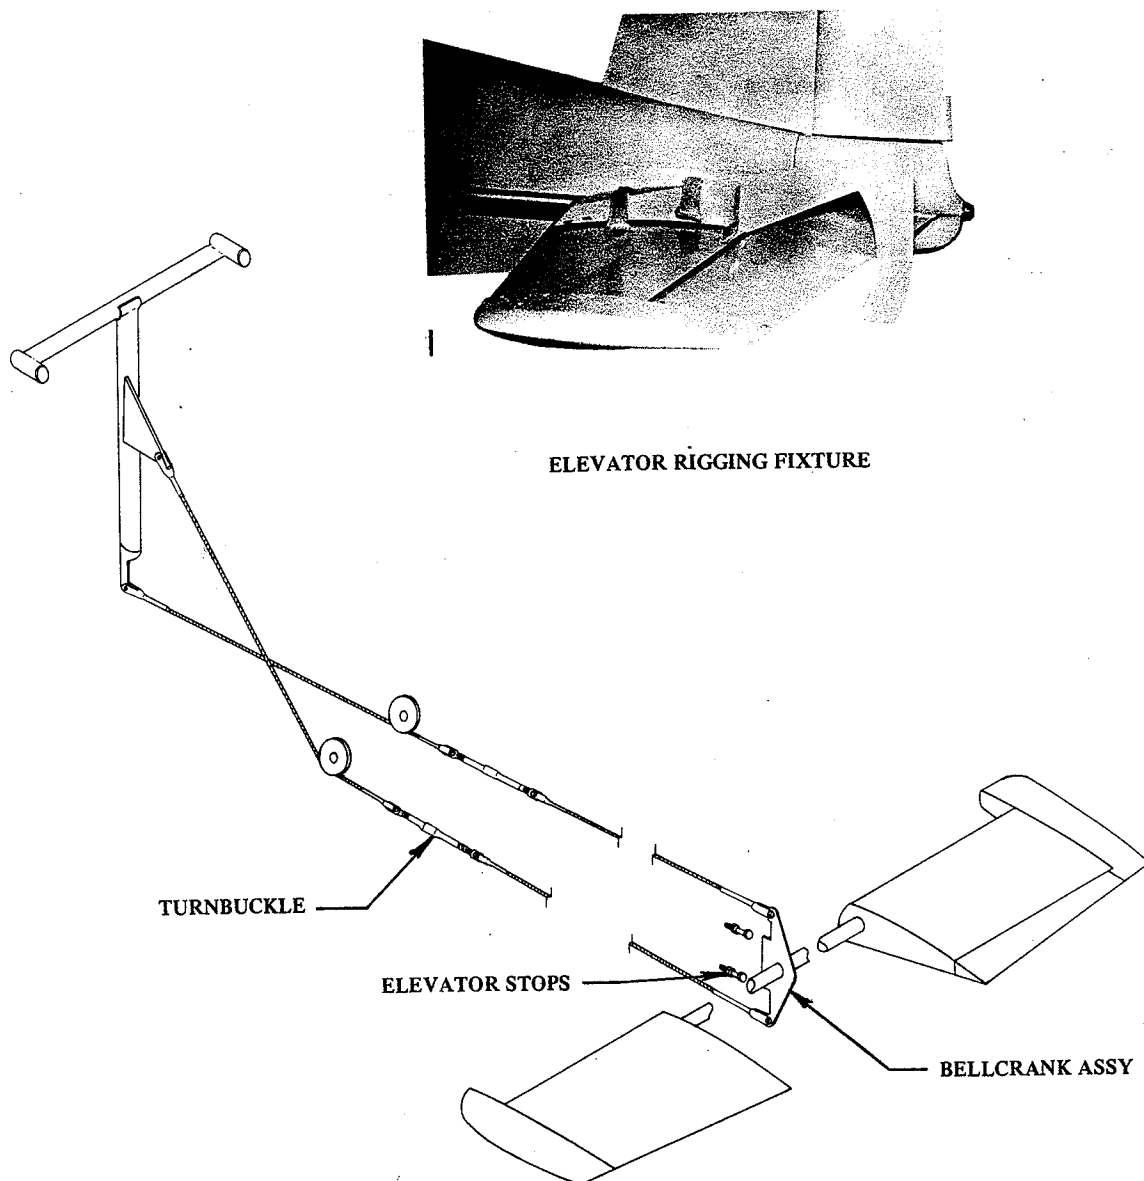

FIGURE 5-3 ELEVATOR SYSTEM
2. Adjust the elevator turnbuckles, located beneath the aft end of the console, until the elevator is located at  $0^\circ \pm 2^\circ$  as indicated by an elevator rigging fixture. (See Figure 5-3).